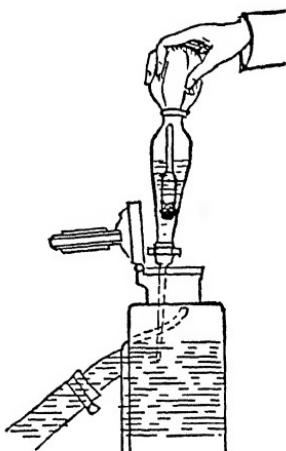

Fig. 26. Anti-Freeze Solution Should Be
**Testing the Strength of the Anti-Freeze Solution.** Hydrometers, Fig. 26, are supplied to test the density of any of the three popular anti-freezes. These are very similar to those used for testing batteries. The workman doing the job should make certain that he understands exactly how to read the tester. Not all makes are read the same. The storage battery specific gravity hydrometer may be used for testing the distilled glycerine solution. The reading will be according to the following chart: